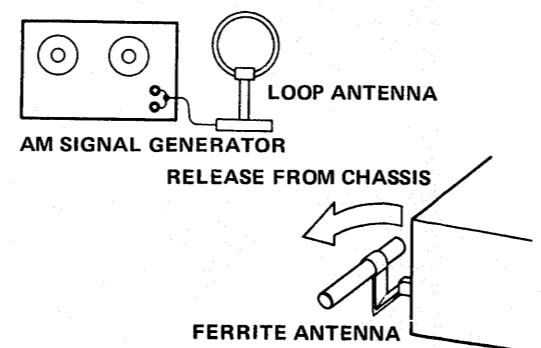

Fig. 7
3. Set signal generator to AM function, 30% modulation with  $400\text{Hz}$ . Connect loop antenna to generator RF output and place near receiver's ferrite antenna. See Fig. 7.